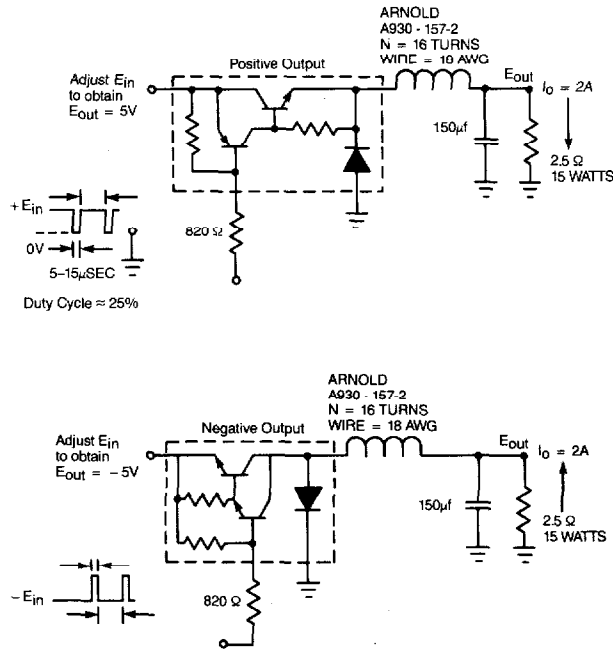

Figure 5. Burn-in Circuits
4.3.8 Power Stress — Each Hybrid device shall be burned-in using the circuit shown in Figure 5. The conditions are as follows:
- Circuit and conditions as shown in Figure 5.